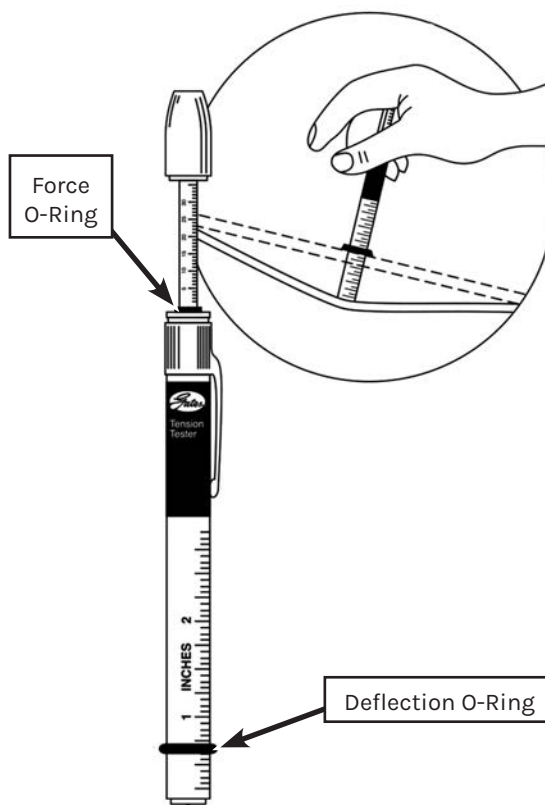
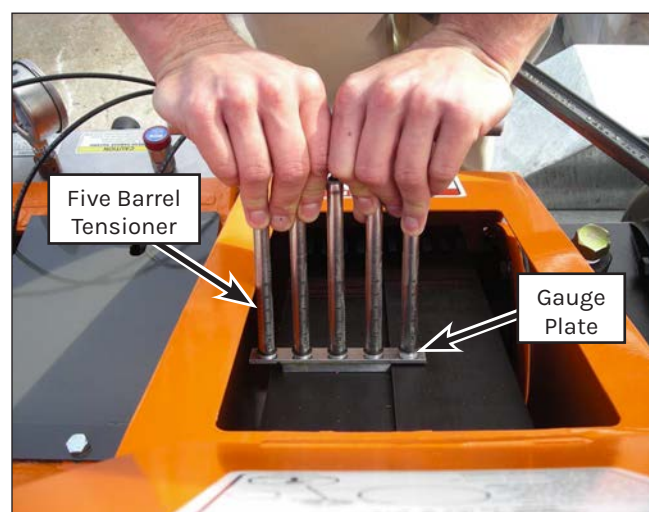

Figure 138: Single Belt Tension Tester.
Figure 139: Power Band Tensioning
4. Adjust the deflection O-ring (Figure 138) on a belt tension tool for the proper deflection as specified on the decal. Slide the force O-ring to the bottom of the scale. Use a five barrel tension tool if power bands are used on your unit (Figure 139).
5. Position the tension tool in the middle of one of the belts mid-way between belt pulleys. Press on the tool until the deflection O-ring is even with the adjacent belt. On five barrel tensioners, press until the gauge plate (Figure 139) touches the adjacent belt.
6. Release pressure and inspect the reading at the bottom edge of the force O-ring(s) (Figure 138) on the tension tool. Adjust